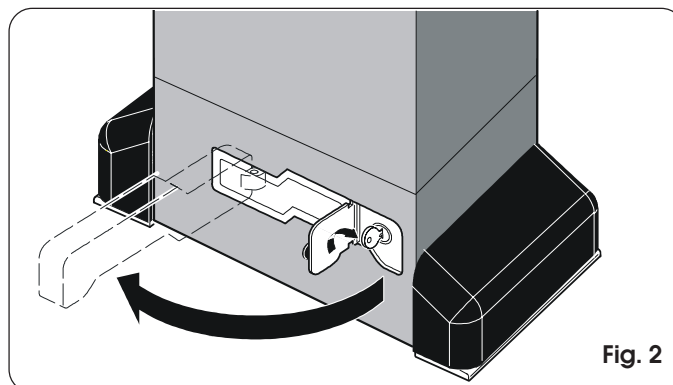

Fig. 2
- 3) Turn the key clockwise and pull the release lever as shown in Fig. 2.